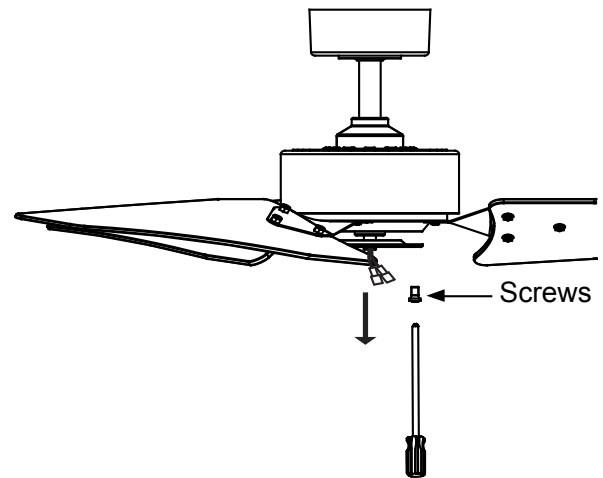

Fig. 18
Step 1. Remove one screw from the black bracket below fan motor assembly and loosen but do not remove the other two screws. (Fig. 18)